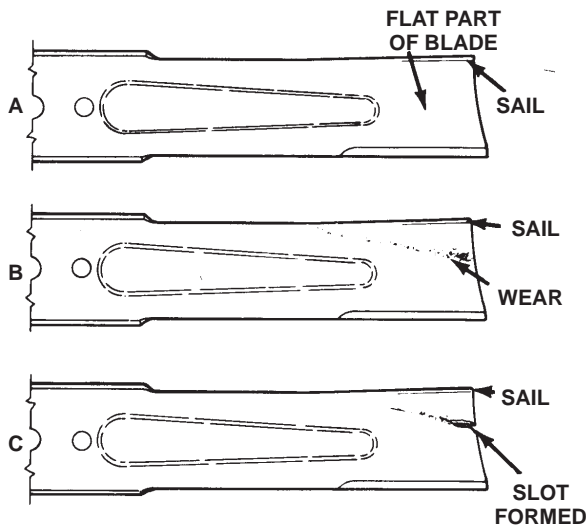

Figure 31
2. Examine the cutting ends of the blade carefully, especially where the flat and curved parts of the blade meet (Fig. 31-A). Since sand and abrasive material can wear away the metal that connects the flat and curved parts of the blade, check the blade before using the machine. If wear is noticed (Fig. 31-B), replace the blade; refer to Removing the Cutting Blade, page 21.
If the blade is allowed to wear, a slot will form between the sail and flat part of the blade (Fig. 31-C). Eventually, a piece of the blade may break off and be thrown from under the housing, possibly resulting in serious injury to yourself or bystanders.